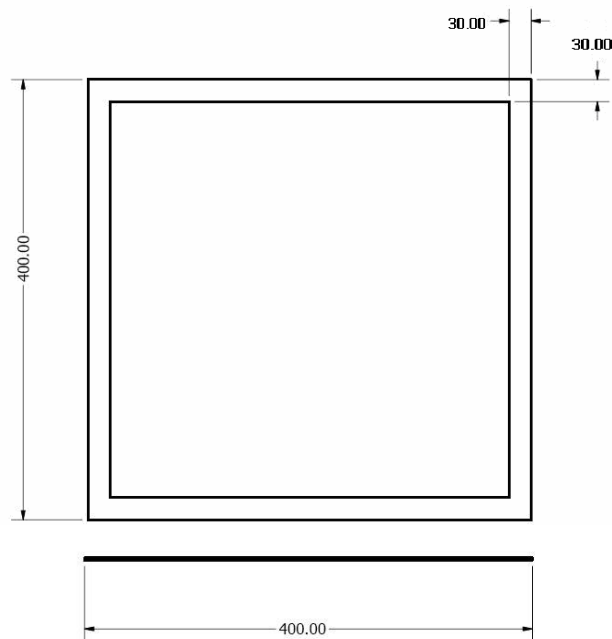

Figure 2 : Rectangular Window Dimensions (in mm)
- 3.2 There shall be two rectangular window frames, 30mm thickness, and one on each section of the tank 500mm from the ends of the tank. See Figure 2 for detailed dimensions.